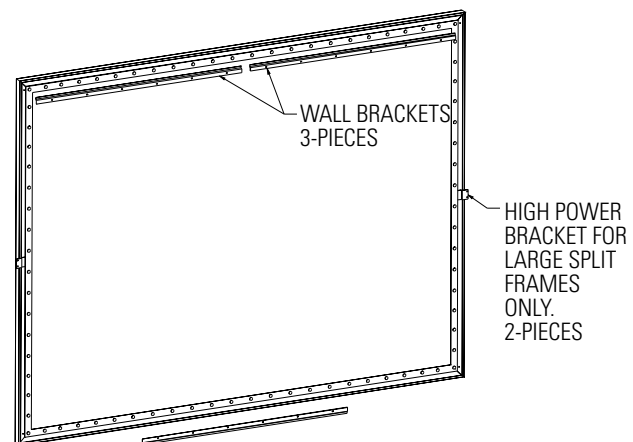

FIGURE 7
3. Some large screen sizes are made with 2-piece side frame rails. For this type of frame you will need to attach one High Power bracket to each side at the joint. See figure 7.